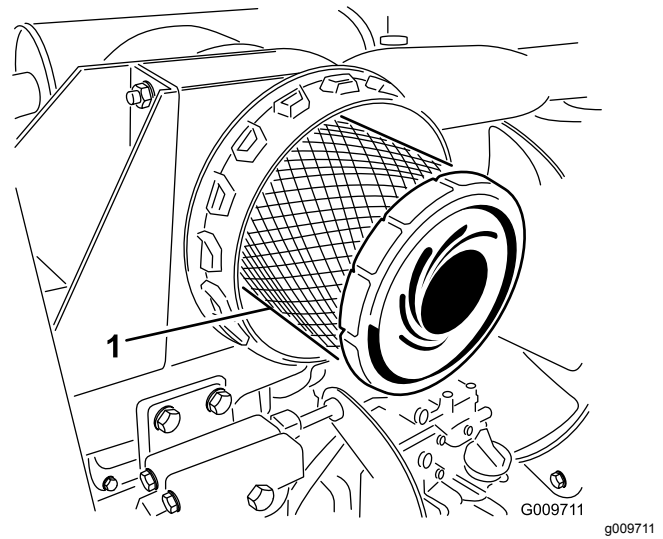

Figure 56
4. Remove and replace the primary filter (Figure 56).